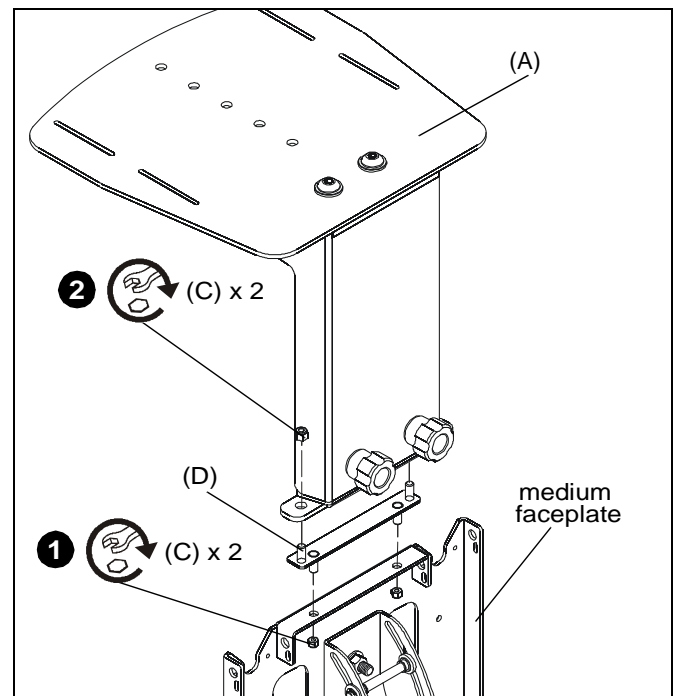

Figure 3
1. Use two 1/4-20" lock nuts (C) to secure medium faceplate adapter (D) to top or bottom of medium faceplate. (See Figure 3)
2. Thread two 1/4-20" lock nuts (C) onto screws to secure shelf to medium faceplate adapter (D). (See Figure 3)
1. Install 1/4-20 x 3/8" Phillips pan machine screw (F) through holes on shelf and into hole on bottom of camera. (See Figure 3)